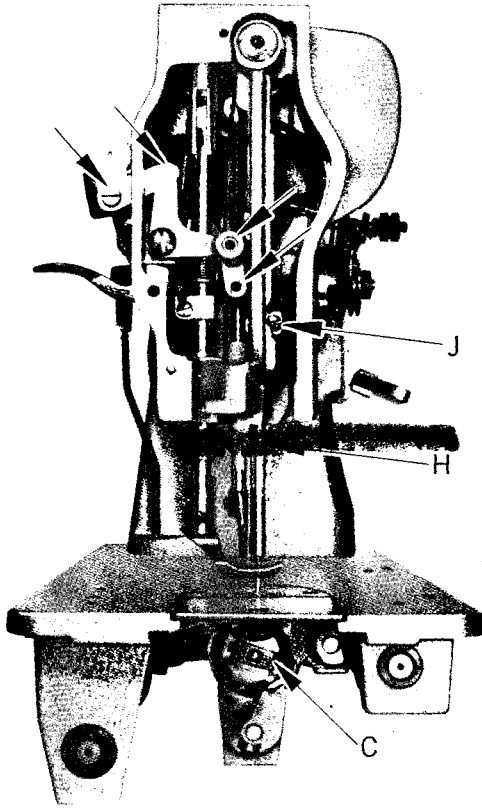
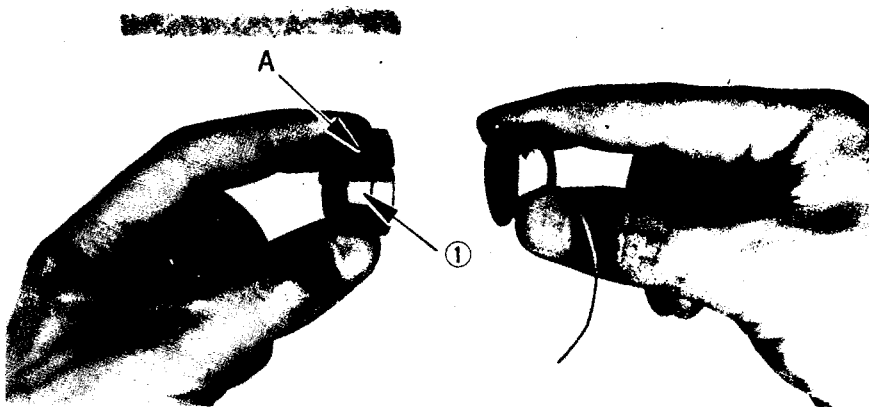

Fig. 4
Fig. 9
2. Pass left hand under table into opening on drip pan. With left thumb and index finger, open the hinged latch (C, Fig. 4). And pull bobbin case and bobbin from rotary hook. While the latch is held open, the bobbin will be retained in the bobbin case. Release of the latch and turning of the open side of the bobbin case downward will cause the bobbin to drop out.
3. Hold the bobbin between the thumb and the forefinger of your right hand and pull out a length of about 5cm of thread. Holding the bobbin case in your left hand turn the open side up and place the threaded bobbin into it. (Fig. 9)
4. With the right hand guide the thread into the slot in the edge of the bobbin case. Then pull the thread to the left, under the tension spring (①, Fig. 9) and into the delivery eye. In order to keep the bobbin from dropping out of the case when it is turned with the open side down, always keep the hinged latch (C, Fig. 4) at the front of the bobbin case open.
5. Take the threaded bobbin case by the latch (C, Fig. 4) and place it on the center stud of the bobbin case holder. Release latch and press bobbin case on to center stud until the latch catches the undercut thereon with a click that can be heard. Permit about 5cm of bobbin thread to hang down freely. Be sure to push the slide plate to the right before starting to sew.
### 2. Tension of the Lower (Bobbin) thread: (Fig. 9)
The lower (bobbin) thread tension is controlled by the larger screw "A" (Fig. 9) near the end of the spring at the outside of the bobbin case.